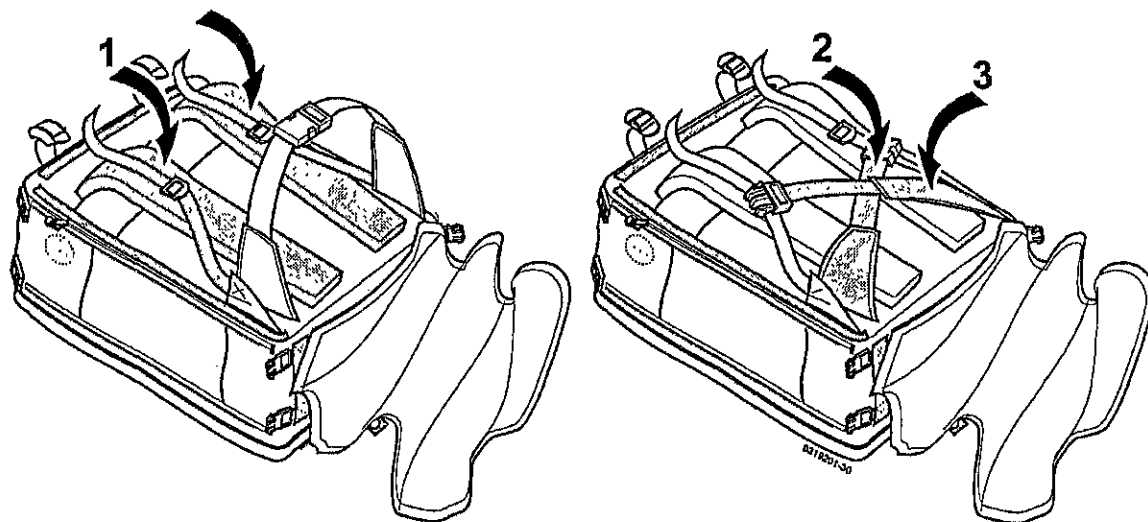

Fig 16 Manpack station - folding the harness
72.8.2 Refer to Fig 16. Lay the shoulder straps down the length of the carry container (Step 1) and fold the ends of the belt diagonally across the container as shown (Steps 2 and 3).